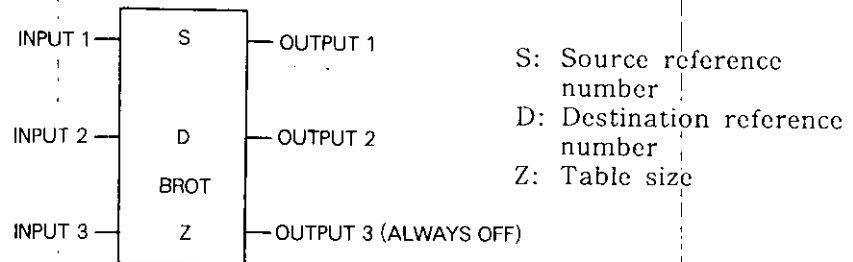

Fig. 5.87 BROT General Form
- Fig. 5.87 shows the form of rotate.